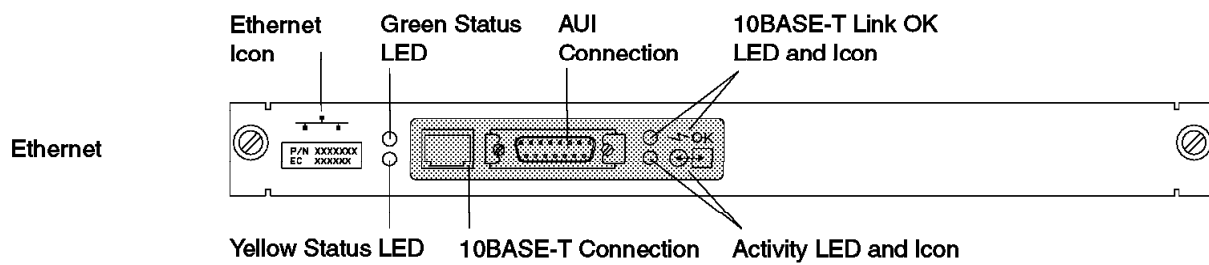

Figure 5. Ethernet Attachment Module
3. Plug wrap plug **C** (PN 55F4897) in the AUI connector of the Ethernet module (refer to Figure 5 on page 10).